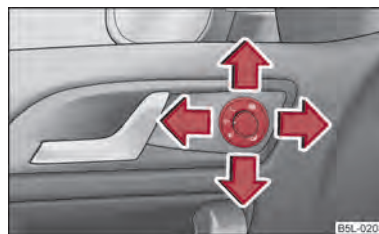

Fig. 41 Inner part of door: Rotary knob
- Turn the rotary knob to position ☞ ⇒ fig. 41.
On vehicles fitted with a memory for the driver seat, the surface of the mirror tilts down slightly when the rear gear is engaged and the rotary knob is in the position **R** → **fig. 41**. This provides an aid in seeing the kerb of the pavement when parking the car.
- If the exterior mirrors are folded in using the rotary knob → **fig. 41**, they can only be folded back into the driving position using the rotary knob.